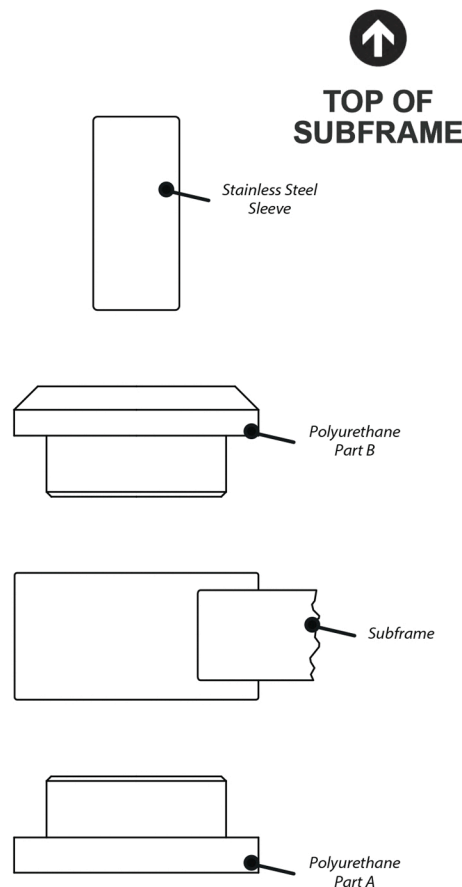

Figure 1
4. Fit polyurethane part A into the bottom side of the subframe bore, as shown in Figure 1.
5. Fit polyurethane part B into the top side of the subframe bore, as shown in Figure 1.